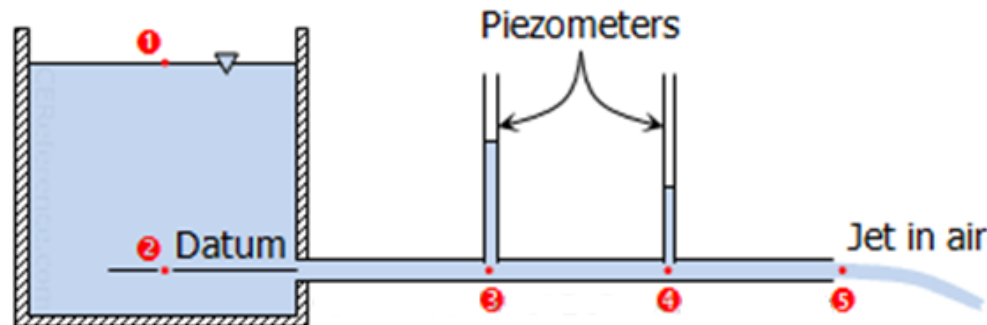

Fig. 13.2
From Figure 13.2, the following head losses are known: From (1) to (2), 0 m; from (2) to (3), 0.60 m; from (3) to (4), 2.1 m; from (4) to (5), 0.3 m. Make a table showing elevation head, velocity head, pressure head, and total head at each of the five points. How high above the center of the pipe will water stand in the piezometer tubes (3) and (4)?